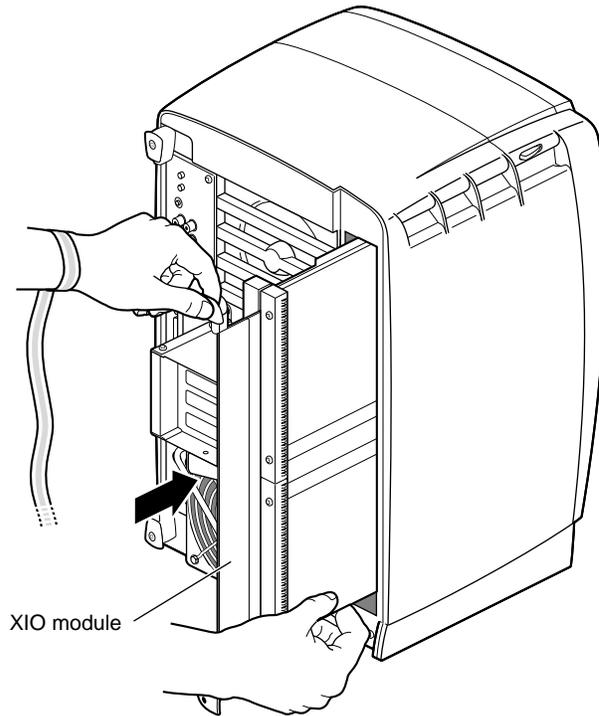

Figure 2-19 Replacing the XIO Module
2. Before you insert the XIO module, make sure the handle portion protrudes in a locked position from the I/O panels, as shown in Figure 2-19.
If the handles are flush with the I/O panels, the XIO module stops during insertion. Pull out the handles until the handle portion of the XIO module looks like Figure 2-19.